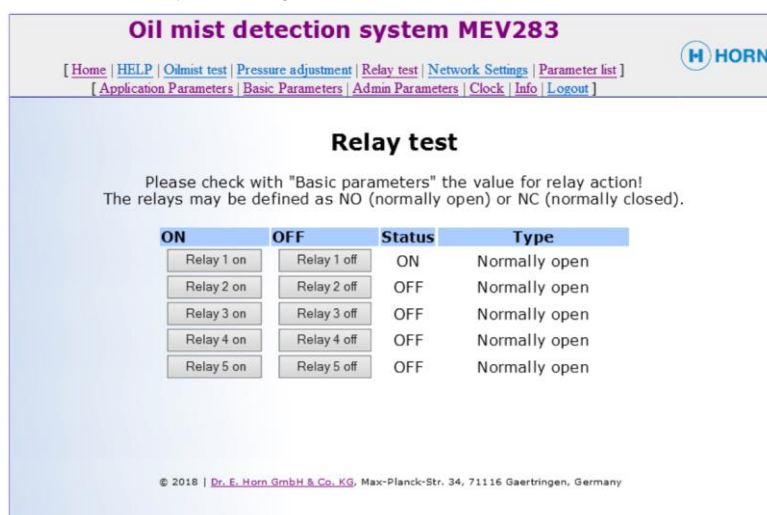

Fig. 36: "Relay test" page
- ⇒ The "Relay test" page (Fig. 36) opens.